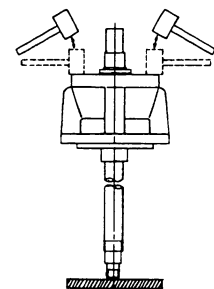

Fig. 4
- (12) Remove *fan key* ㊺.
- (13) Remove *bearing box (outlet side)* ㊻ from *fan case (A)* ㊼. At this time, *shaft* ㊽ should come off together with *bearing box (outlet side)* ㊻.
- (14) Remove *bearing retaining cap* ㊾.
- (15) Lay a wood-block on the floor and stand *shaft* ㊽ on top of the block in an upright position. (Fig.4)
- (16) Remove *bearing box (outlet side)* ㊻ from *bearing* ㊿ by tapping outside uniformly with plastic hammer.
- (17) Remove *bearing nut* ㊿ and *bearing washer* ㊿.
- (18) Remove *bearing* ㊿ from *shaft* ㊽, using a puller.